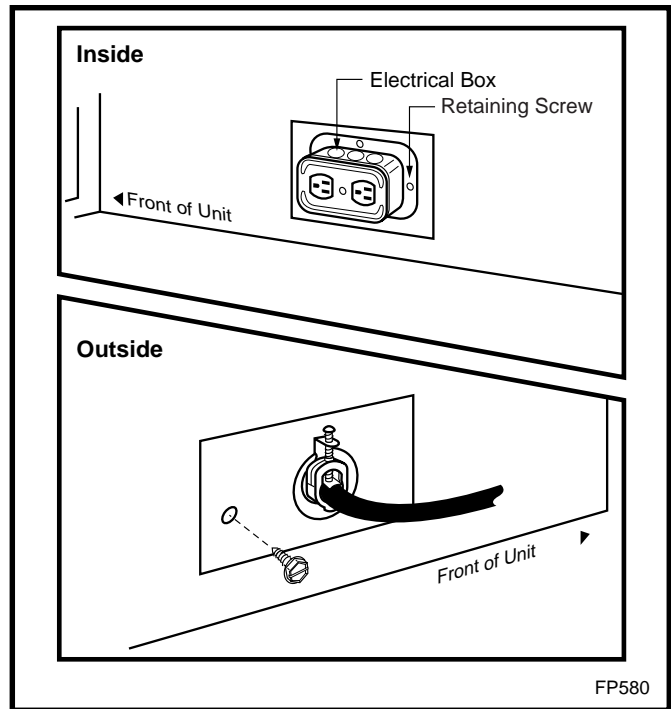

Fig. 9 EB-1 receptacle.
1. Unscrew the retaining screw from the EB-1 base plate (Fig. 9), and remove the EB-1 assembly from the fireplace.
4. Feed the supply line in from the outside through the cable clamp (Fig. 9).